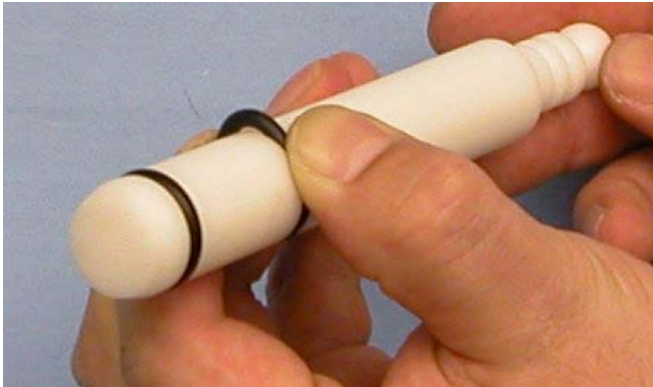

Figure 3-4 Removing O-Ring
6. Remove all o-rings from parts by first wiping off the lubricant using a clean towel. Then squeeze the o-ring upward to form a loop (Fig. 3-4). Roll the o-ring out of the groove.